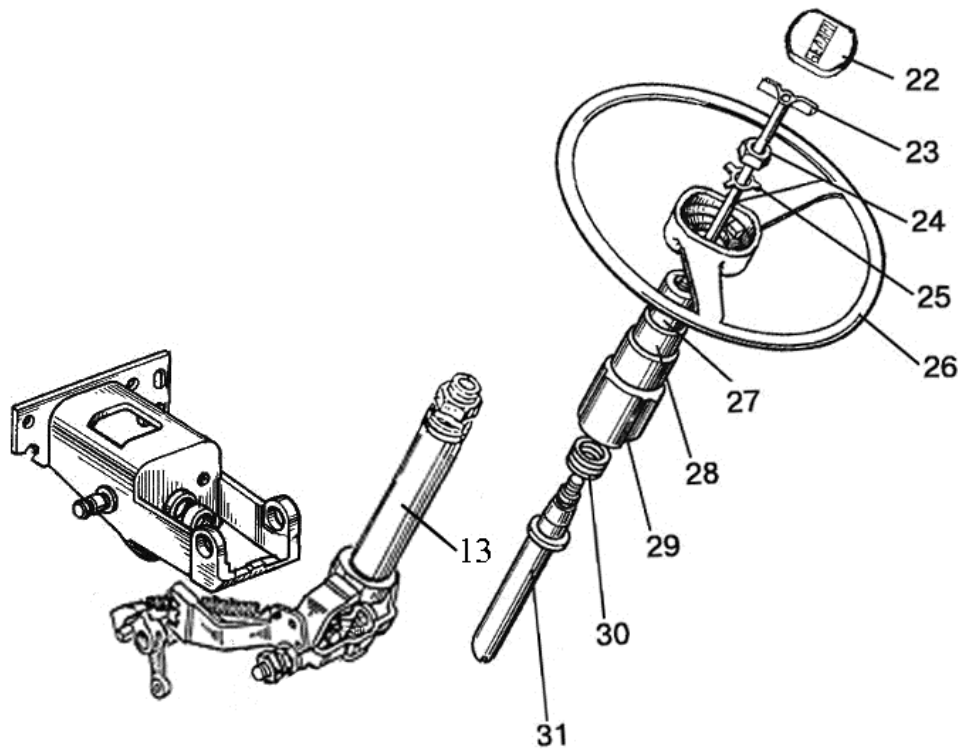

Figure 7.21
- 24) assembly steering wheel (26), (figure 7.21) with shaft (31), having installed spring (30), sheath (29), bushings (27), (28), retaining washer (25), nut (24) and clamp (23)
- 25) insert steering wheel (26), (figure 7.21), as an assembly with shaft (31), sheath (29), bushings (27) and (28) inside pipe (13) of steering column;
- 26) secure sheath (29), (figure 7.21) with screws (4) (figure 7.10) in section 10.4 "Dismounting-mounting dashboard 80-3805010-Д1 of tractors Belarus-1025/1025.2/1025.3" to arm of dashboard;
- 27) screw up clamp (23), (figure 7.21), and close with cover (22);